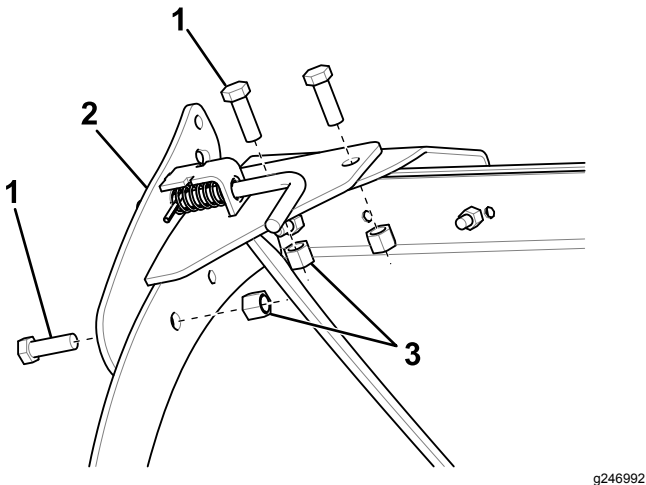

Figure 3
6. Loosely attach the spring bracket to the side of the plow using a bolt (1/2 inch) and locknut (Figure 3).
7. Loosely attach the spring bracket to the spring bracket base-plate using 2 bolts (1/2 inch) and locknuts (Figure 3).